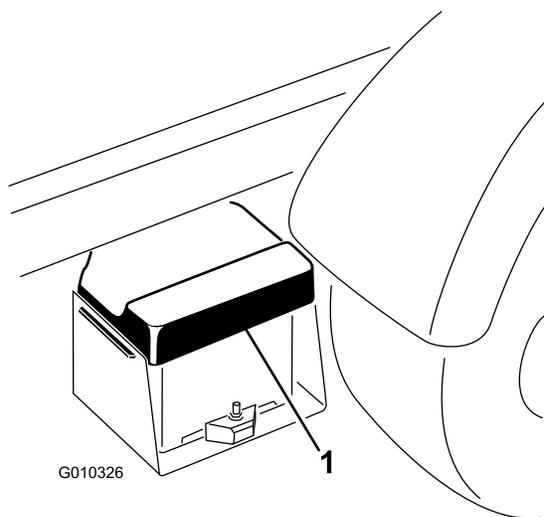

Figure 53
1. Squeeze the battery cover to release the tabs from battery base. Remove the battery cover from the battery base (Figure 53).